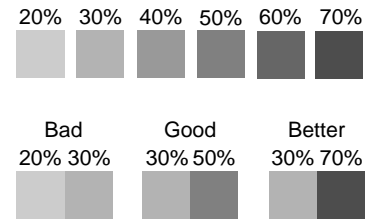

Figure 2. Dot Fill Patterns.
- Any fills that represent different values in the same illustration must differ by at least 20%. For example, fills that are 20% black and 30% must not be used on the same figure, but fills that are 30% black and 50% black are acceptable for use on the same figure (see Fig. 2).